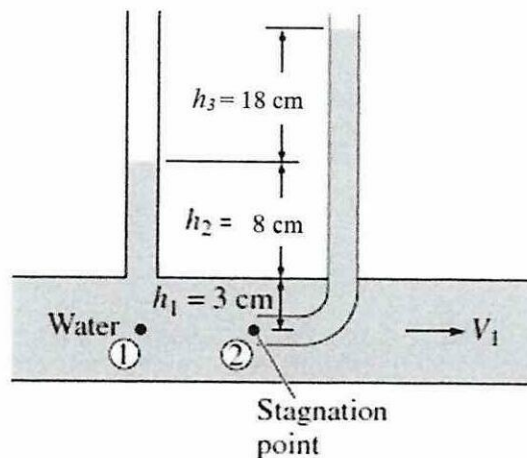

Figure Q1.1
- (b) State **TWO (2)** major assumptions used in the derivation of the Bernoulli equation. (2 marks)
- (d) A piezometer and a pitot tube are tapped into a horizontal water pipe to measure static and stagnation pressures as depicted in **Figure Q1.1**. For the water column heights, determine the velocity at the center of the pipe. (6 marks)